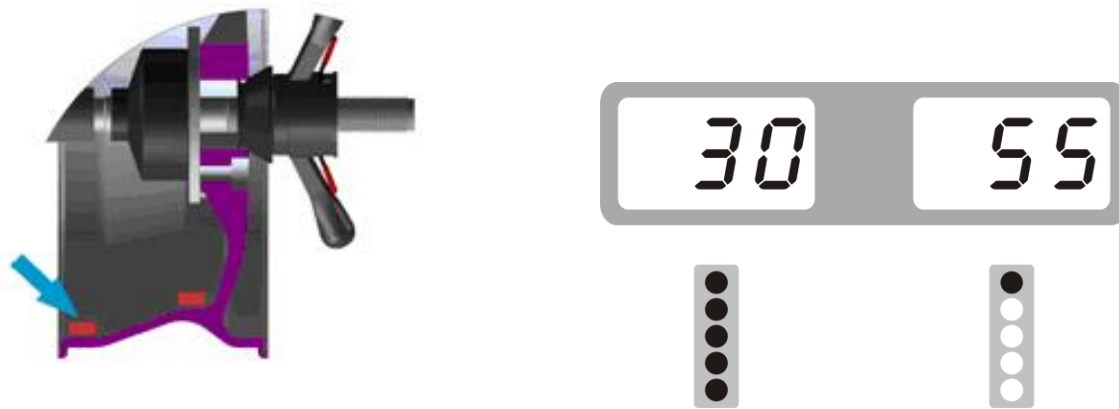

Fig 11
3. Push the wheel to anticlockwise direction slowly until the inside unbalance indicator light illuminate, the rim unbalance position located at 6 o'clock position, select the weight paste it according the laser indicate line see fig 11